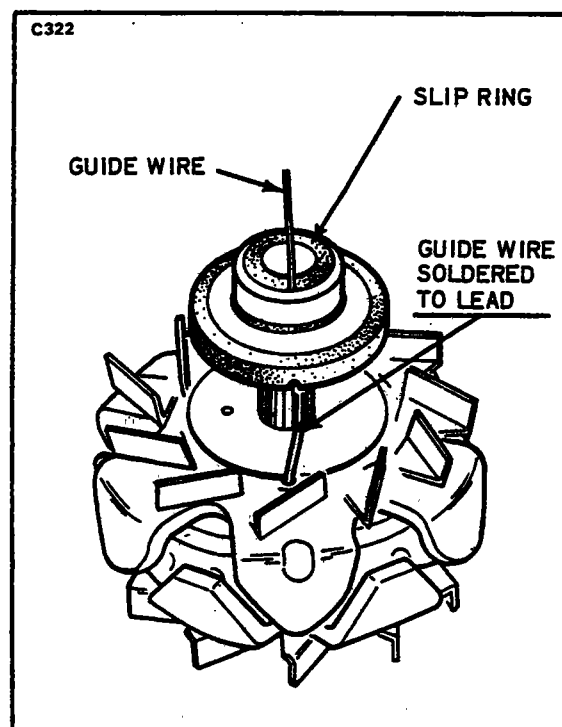

Figure 11-33. Aligning Slip Ring
2. Lap the tinned end of the wire over the field coil lead to the insulated ring and solder the two together. (Refer to Figure 11-33.)